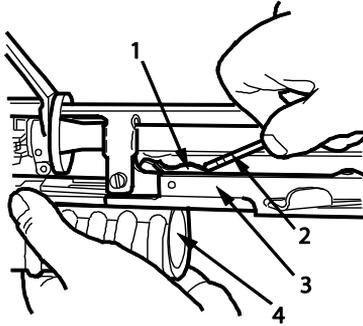

Figure 8. Barrel Stop-Assembly.
1. Press barrel stop (Figure 8, Item 1) with cleaning rod section (Figure 8, Item 2). Slide barrel (Figure 8, Item 4) onto receiver (Figure 8, Item 3).